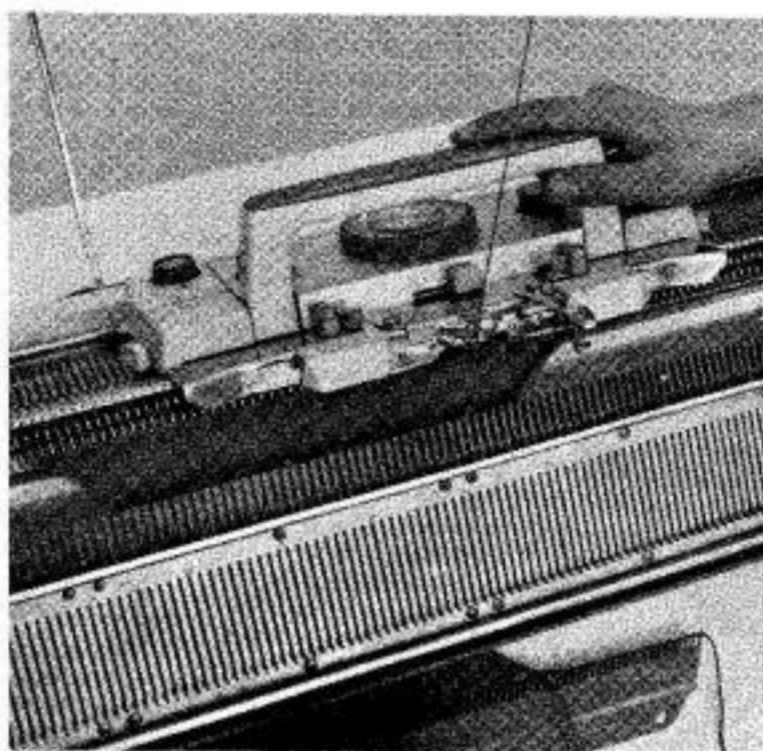

Fig. 85
3. Replace the ribber feeder arm of the machine carriage with the ordinary feeder arm, and knit. (Fig. 85)